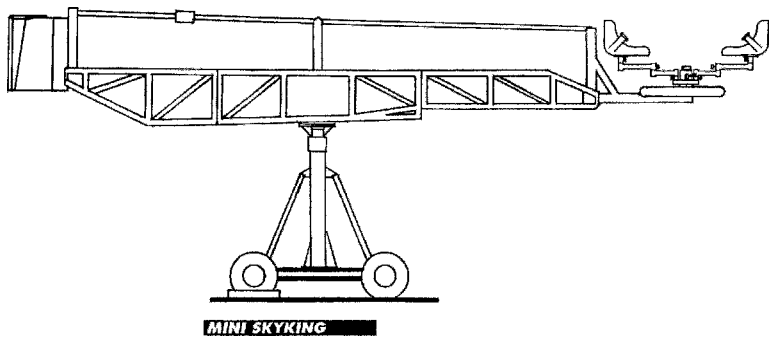

Figure 11.6 Mini Skyking.
- **Mini Skyking** (Figure 11.6)